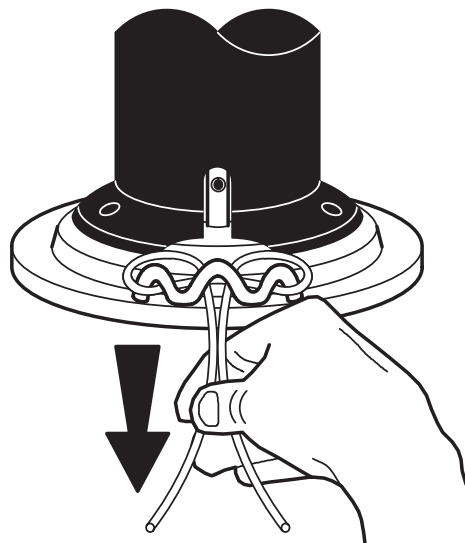

Figure 17
6. Then, check to make sure that the ends of the line are even. (See Figure 17)